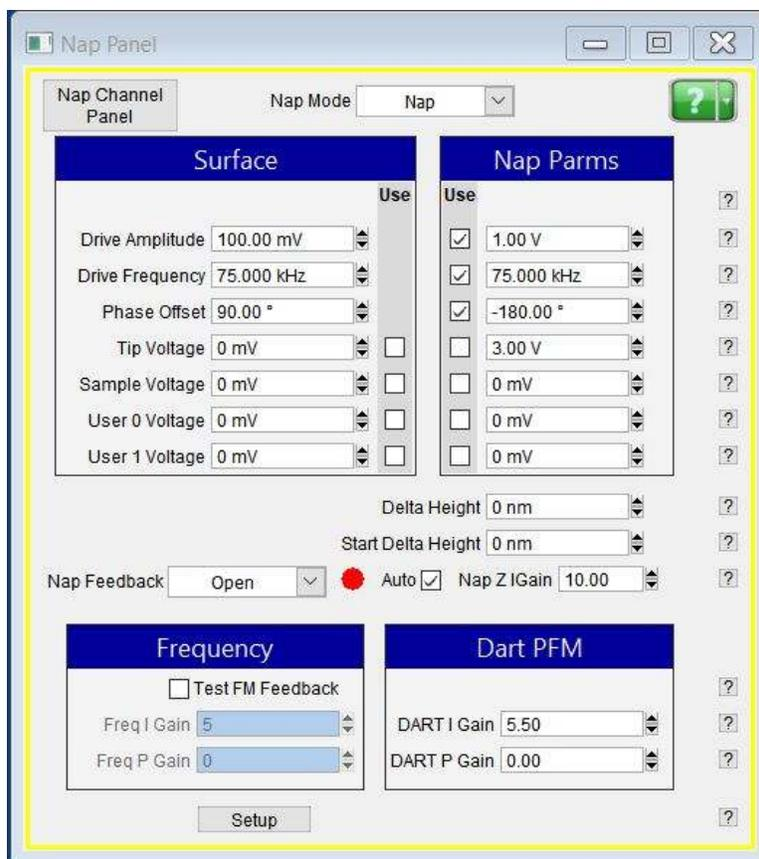

Figure 11.3.: Nap Panel configured for SKPM scan. The values in the parameters may vary depending on your tip and sample.
13. Select *Drive Amplitude*, *Drive Frequency*, and *Phase Offset* under the Swap column. See Figure 11.3 on page 142
16. Open the Nap Channel Panel (*AFM Controls > Nap Chanel Panel*) or click the ‘Nap Channel Panel’ button at the top-left of the Nap Panel. See Figure 11.3 on page 142